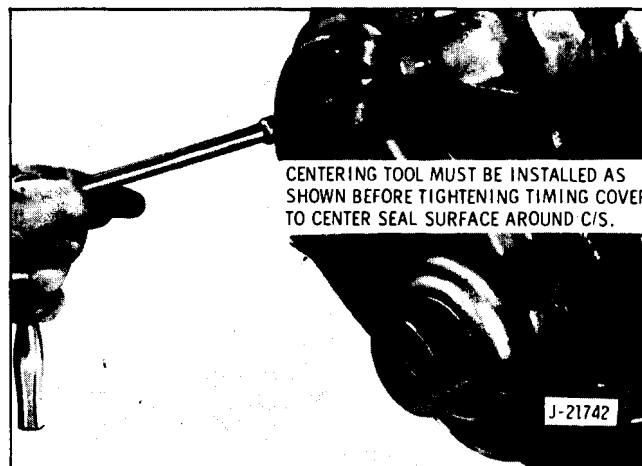

Fig. 6-45 Installing Timing Gear Cover
4. Install cover over centering tool (Fig. 6-45) and install cover screws. Torque screws to 7 lb. ft. Remove centering tool.